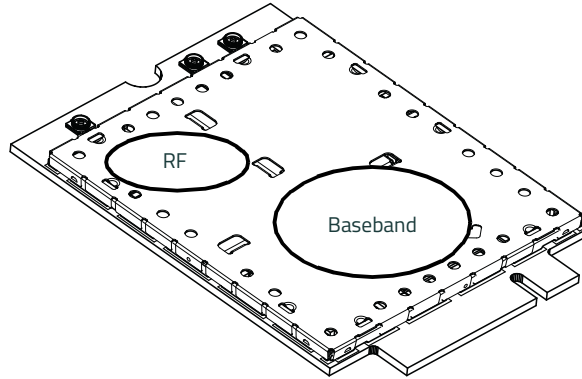

Figure 6-4: Shield Locations (Top View)
- Monitor temperature at all shield locations. Attach thermocouples to the areas indicated in Figure 6-4 on page 55 (RF, Baseband).